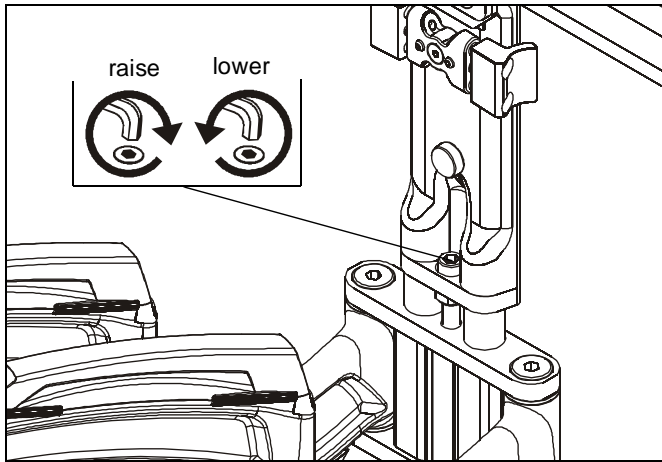

Figure 30
2. Use 1/4" hex key (BB) to adjust height adjustment screw to raise or lower mount to desired height. Turn clockwise to raise mount and counter-clockwise to lower mount. (See Figure 30)